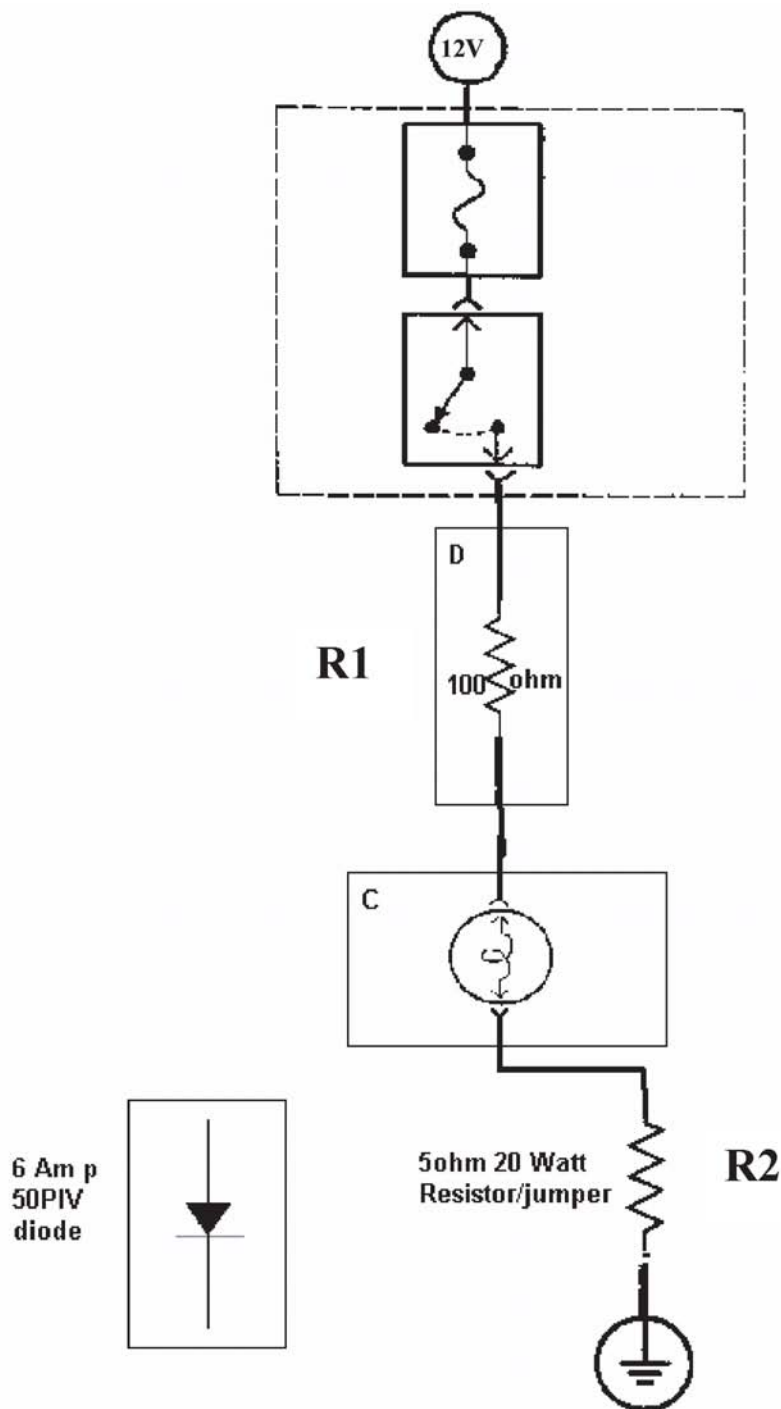

Figure 11-14
1. Place the components shown on the diagram in Figure 11-14 in the same configuration on the electrical trainer. Make a series circuit as shown so that current flows through the circuit breaker 1st, then R1, then a small bulb and last, through R2 to ground.